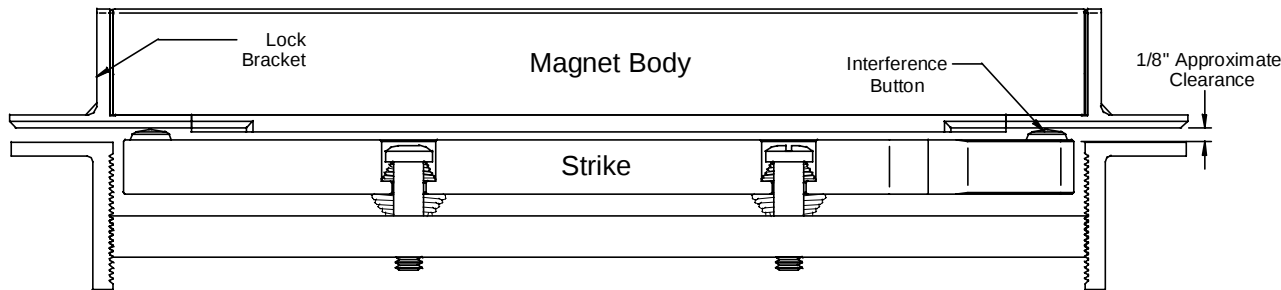

Figure 11
De-energized adjustment of the strike height is important for proper door/lock operations. The example in Figure 11 below illustrates the lock with the proper adjustment. Without power applied to the lock, both of the Interference Buttons should just clear the lock brackets. Check this by opening and closing the door. To adjust the clearance to be closer, turn the adjustment screws, in the center of the strike counter-clockwise ¼ turn, one at a time and recheck the clearances. Both screws do not have to be adjusted the same amount of turns. The adjustments should be made independently so that the strike level is uniform to the door frame and lock installation. The strike screws are allowed up to two (2) full turns of adjustment each. If the adjustment is two (2) turns or greater, turn the screws clockwise back to the down position and adjust the end brackets the amount of notches necessary to start the final adjustments and repeat adjustments again until satisfied with the height set.